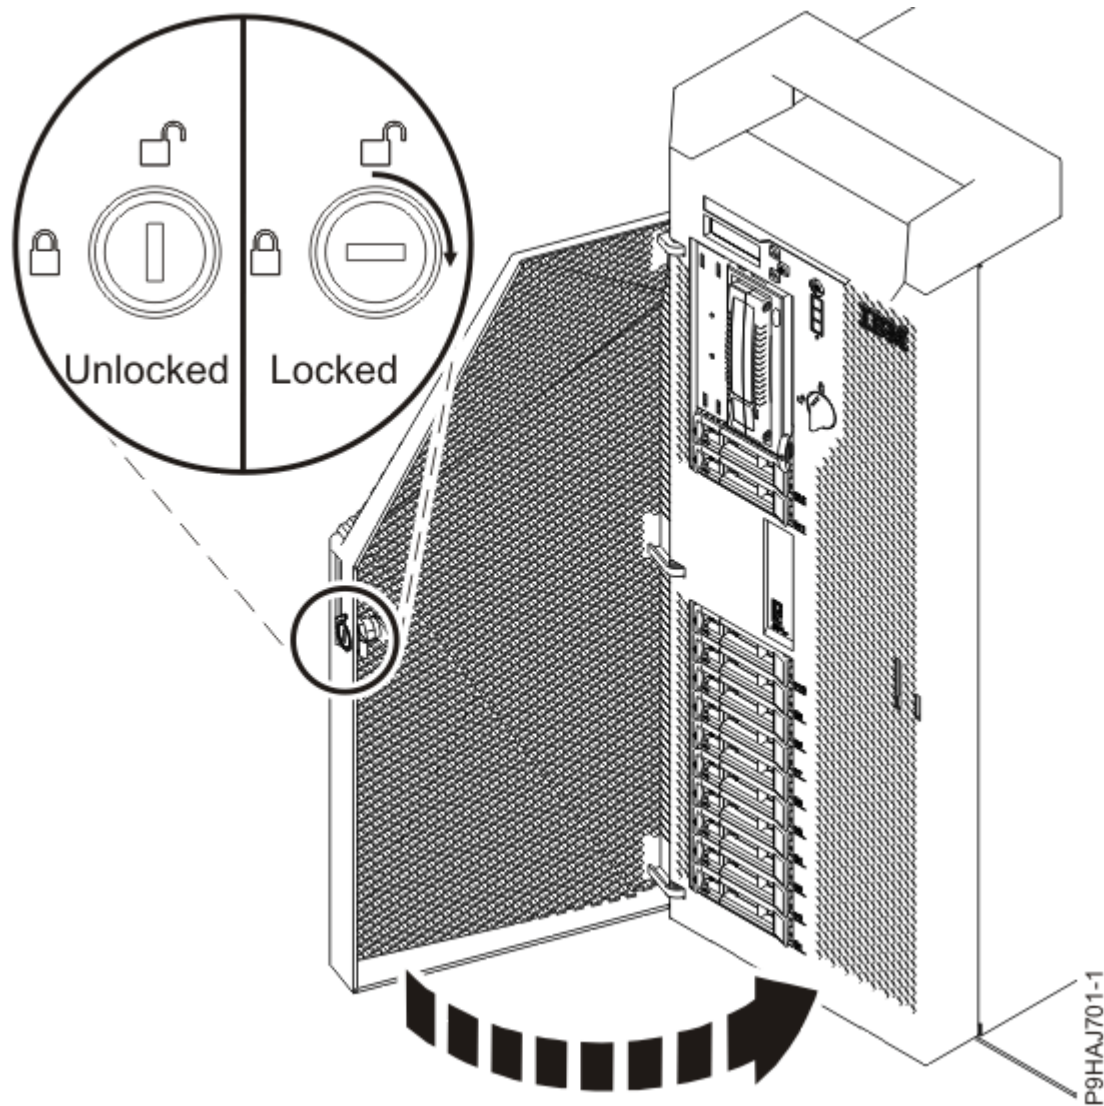

Figure 41. Locking the front door
9. For a stand-alone system, close the front door. Insert the front door key into the lock as shown in Figure 41 on page 48. Twist the key to the right (clockwise) to lock the door. Horizontal is locked; vertical is unlocked.